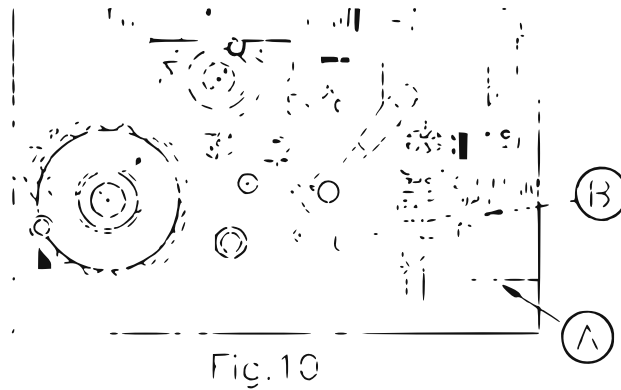

Figure 4-4: Spindle rotation levers
Select spindle rotation with the lever controls (A) and (B) in Figure 4-4, with the main motor running. Move the lever out and down to engage forward or reverse rotation of the spindle. Return it straight to the control position to disengage the drive.